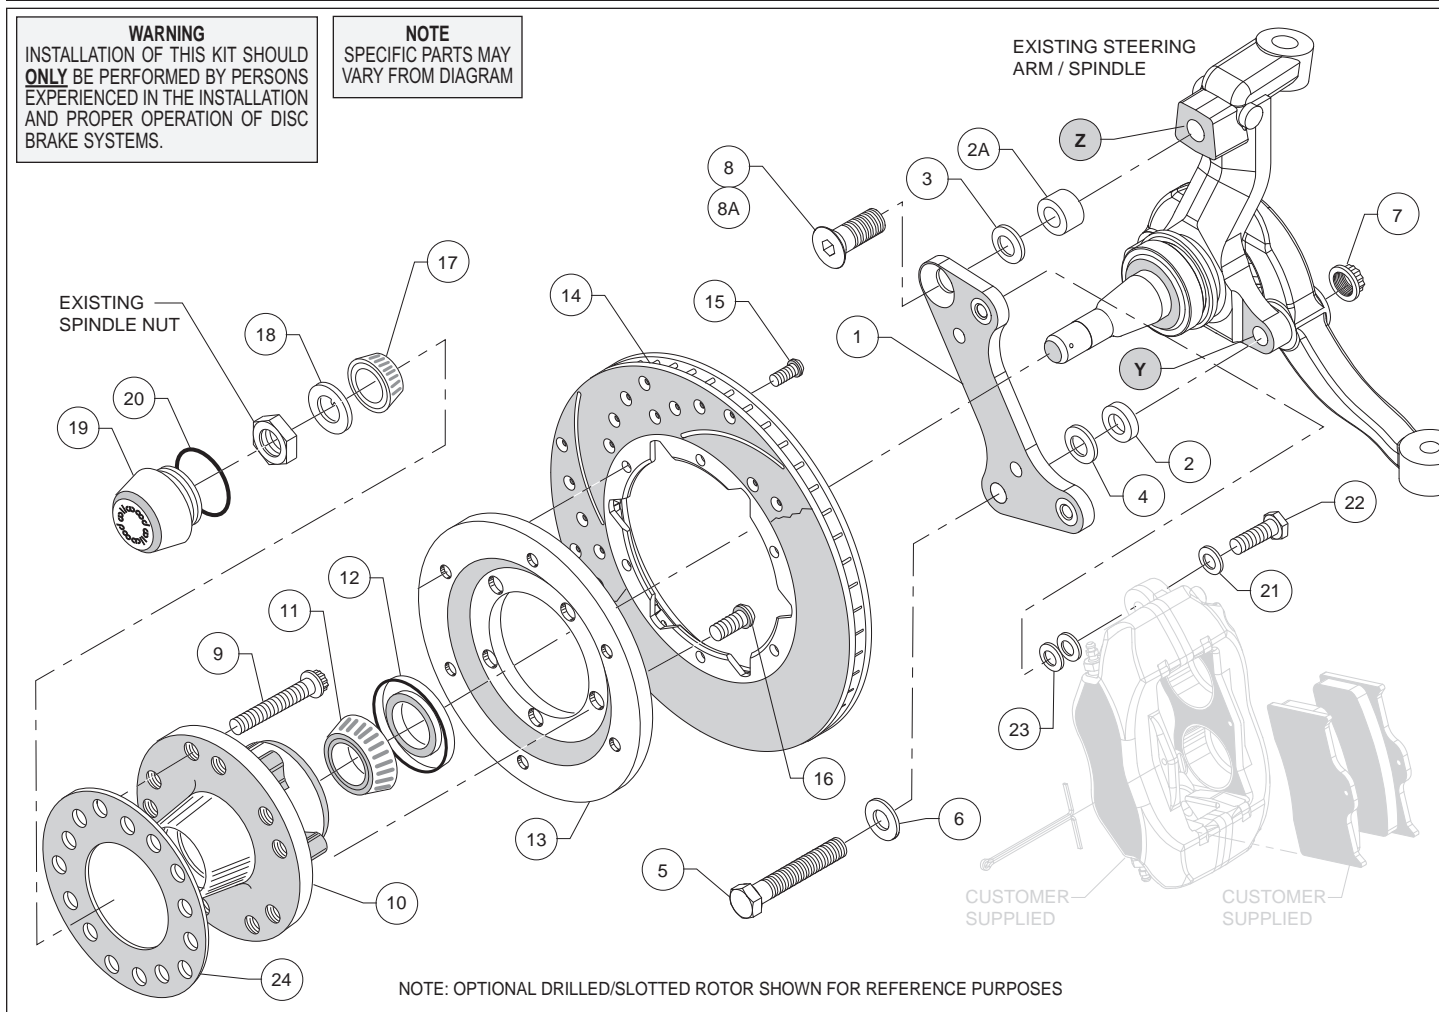
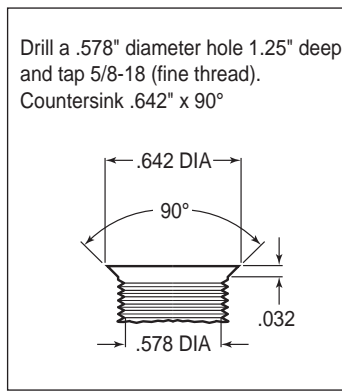
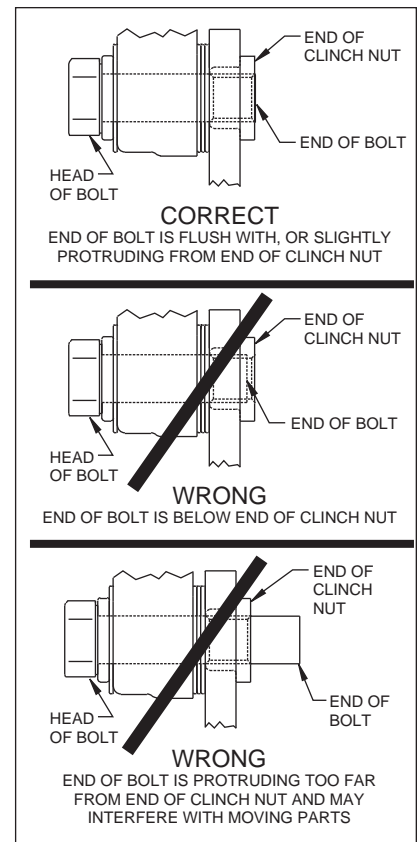

Figure 1. Typical Installation Configuration
Figure 3. Drill and Tap Detail
Figure 4.
Assembly Instructions (numbers in parenthesis refer to the parts list and Figure 1 on the preceding page): **CAUTION:** All mounting bolts must fully engage clinch nuts. Be sure to check that all bolts are either flush or protruding through flanged side of clinch nut after shimming, Figure 4.
- NOTE:** 1964-66 spindles may require the following modifications (reference Figure 1 and Figure 3): Top anchor pin hole (Z) must be drilled and tapped to the dimensions as outlined in Figure 3. Bottom rear steering arm bolt hole (Y) in the spindle and steering arm must be enlarged to .50" by drilling.
- Install wheel studs (9) into the hub (10), Photo 1. Torque to 77 ft-lb. **NOTE:** There are two five lug patterns in the hub (5 x 4.50 and 5 x 4.75). Ensure the correct hub stud pattern is being used to fit the wheel application.
- Pack the large inner bearing cone (11) with high temperature disc brake bearing grease (available from your local auto parts store) and install into the backside of the hub (10), Photo 2.
- Install the grease seal (12) by pressing into the backside of the hub (10), flush with the end of the hub, Photo 2.
- Orient the rotor (14) and the rotor adapter (13) as shown in Figure 1 and Photo 3. Attach the rotor to the adapter using bolts (15). Using an alternating sequence, apply red *Loctite*® 271 to the threads, and torque to 25 ft-lb.
- Mount the adapter/rotor assembly (13/14) to the hub (10) using bolts (16), as shown in Figure 1 and Photo 4. Using an alternating sequence, apply red *Loctite*® 271 to the threads, and torque to 45 ft-lb.
- Attach caliper mounting bracket (1) to spindle face using lower bolt (5), washer (6), and a .090" thick spacer (2) positioned between the bracket and the spindle face, as shown in Figure 1 and Photo 5. Secure bolt on the backside of the steering arm with lock nut (7). Finger tighten. Install upper bolt (8) (for drum spindle) or bolt (8A) with spacer (2A) between bracket and spindle (for disc brake spindle), Photo 6. Ensure that the flanged heads of the clinch nuts in the bracket are facing outboard, Photo 6. Temporarily tighten the mounting bolts and install the new hub/rotor assembly (10/14). Check that the bracket is aligned parallel to the rotor, Photo 7. If not, adjust by adding shim washers (3 and/or 4) between spacers (2 and/or 2A) and the bracket, Figure 1. Once the bracket alignment is correct, remove the upper bolt (8 or 8A), apply red *Loctite*® 271 to bolt threads, and torque to 120 ft-lb. Torque lock nut (7) to 65 ft-lb.
- Pack the small outer bearing cone (17) with high temperature disc brake bearing grease and install into hub (10). Slide the hub/rotor assembly onto the spindle. Secure using spindle washer (18) and OEM spindle nut, Photo 8. Adjust bearings per OEM specifications. Install saved OEM nut lock (if any) and a new cotter pin (not included).
- Screw dust cap (19) into hub (10). Friction created by the o-ring on the dust cap keeps it from unscrewing. **NOTE:** The O.D. of the existing OEM spindle washer may be larger than the I.D. of the dust cap not allowing it to seat against the hub face. Therefore, use the spindle washer (18) supplied with the kit instead of the OEM washer.
- NOTE:** Please reference the caution statement at the beginning of the assembly instructions. Mount the caliper (customer supplied) onto the caliper mounting bracket (1) using bolts (22) and washers (21), as shown in Figure 1. Initially place two .032" thick shims (23) on each bolt between the caliper and the bracket. Temporarily tighten the mounting bolts and view the rotor (14) through the top opening of the caliper. The rotor should be centered in the caliper. If not, adjust by adding or subtracting shims between the bracket and the caliper. Always use the same amount of shims on each of the two mounting bolts. **NOTE:** The end of each bolt must be flush with or slightly protruding from the head of the clinch nut, as shown in Figure 5. If necessary place spare shims between washer (21) and caliper mounting ear to achieve the proper clinch nut engagement, as shown in Figure 4. Once the caliper alignment and clinch nut engagement are correct, remove the bolts one at a time, apply red *Loctite*® 271 to bolt threads, and torque to 40 ft-lb.